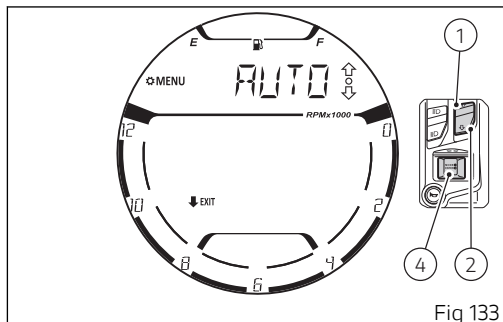

Fig 133
When entering this function, the instrument panel will display the currently set value (Fig 133). With buttons (1) and (2) it is possible to scroll and select (flashing) the available settings: "AUTO", "MANUAL".